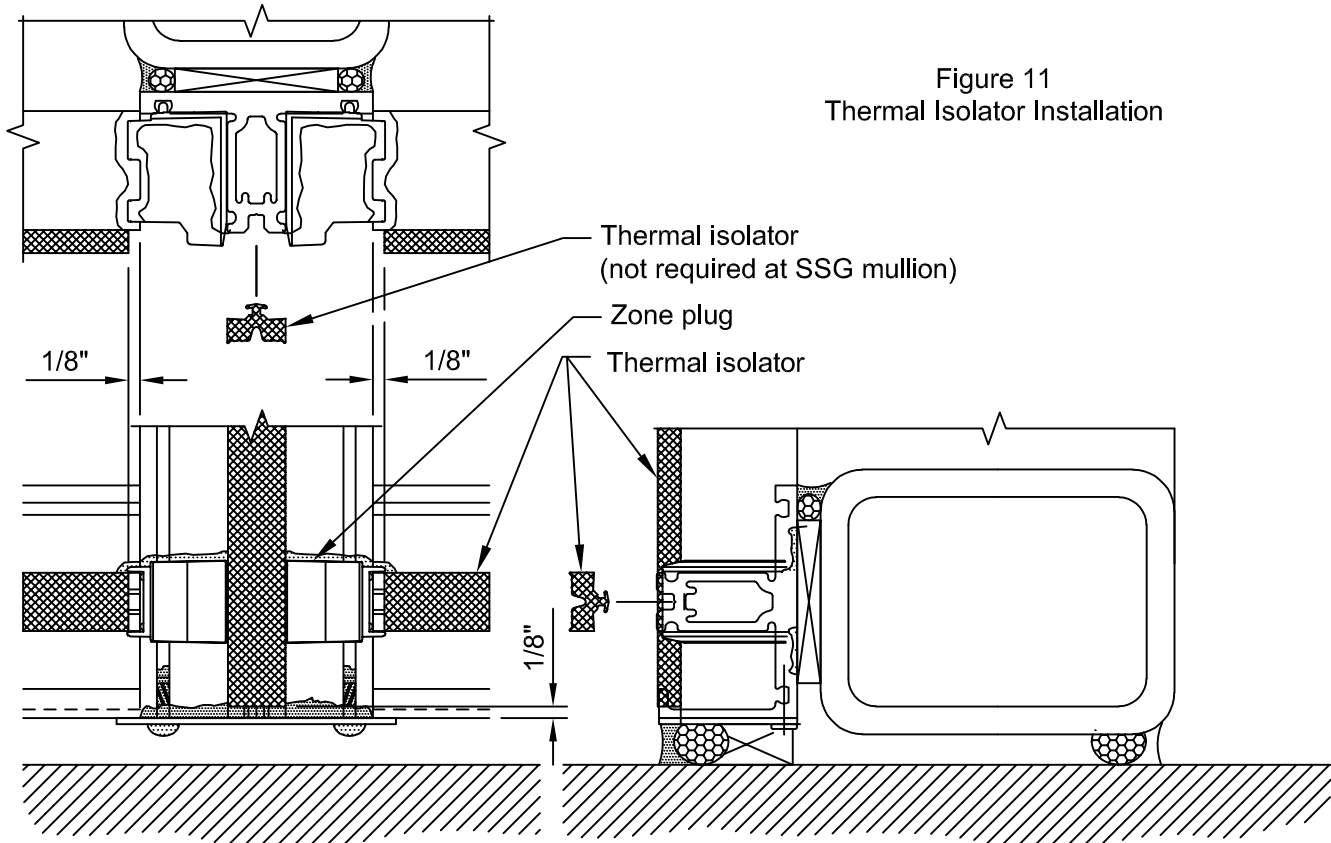

Figure 11
- 3.2 Install thermal spacer into groove on face of mullion tongues. Run through at vertical splice joints. Cut short 1/8" from each end of the mullion. SEE FIGURE 11.